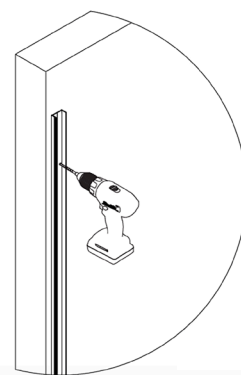

FIGURE 6
Set the Wall Jamb (A) in place and make sure holes line up. Using six #10 x 2" Wall Jamb Screws (F) provided, attach Wall Jamb (A) to wall. (See Figure 6)